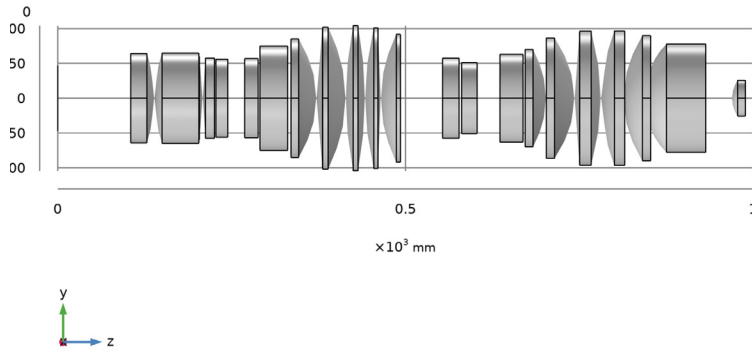

Figure 1: Microlithography lens geometry sequence. The rays propagate from left to right.
When constructing a geometry in COMSOL to be used in a Geometrical Optics ray trace, it is important to appreciate that the order in which optical elements are placed in a geometry sequence does not affect the results of the trace. However, it is convenient to place optical elements relative to one another. This can be achieved by taking one of the built-in work planes in a Part Instance as the reference for the placement of the next Part Instance. The resulting lens geometry sequence is shown in Figure 1. Detailed instructions for creating the geometry can be found in Appendix — Geometry Instructions.
- 9 In the **Graphics** window toolbar, click  next to  **Go to Default View**, then choose **Go to ZY View**. This will orient the view to place the optical axis ( $z$ -axis) horizontal and the  $y$ -axis vertical. Compare the resulting geometry to Figure 1.